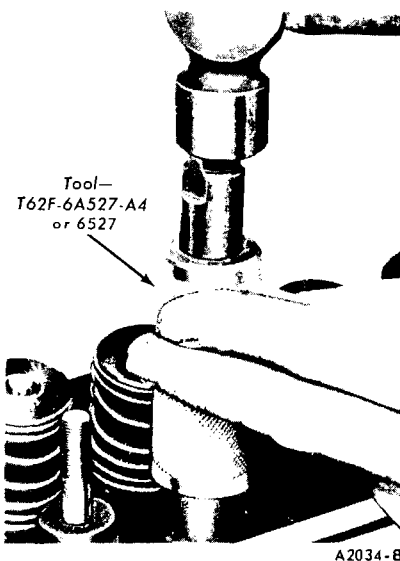

FIG. 25—Rocker Arm Stud Installation
3. Screw the new stud into the sliding driver of the rocker arm stud installer (tool T65P-6A527-A) and coat the end of the stud with Lubriplate. Align the stud and installer with the stud bore; then tap the sliding driver until it bottoms (Fig. 25). When the installer contacts the stud boss, the stud is installed to its correct height.